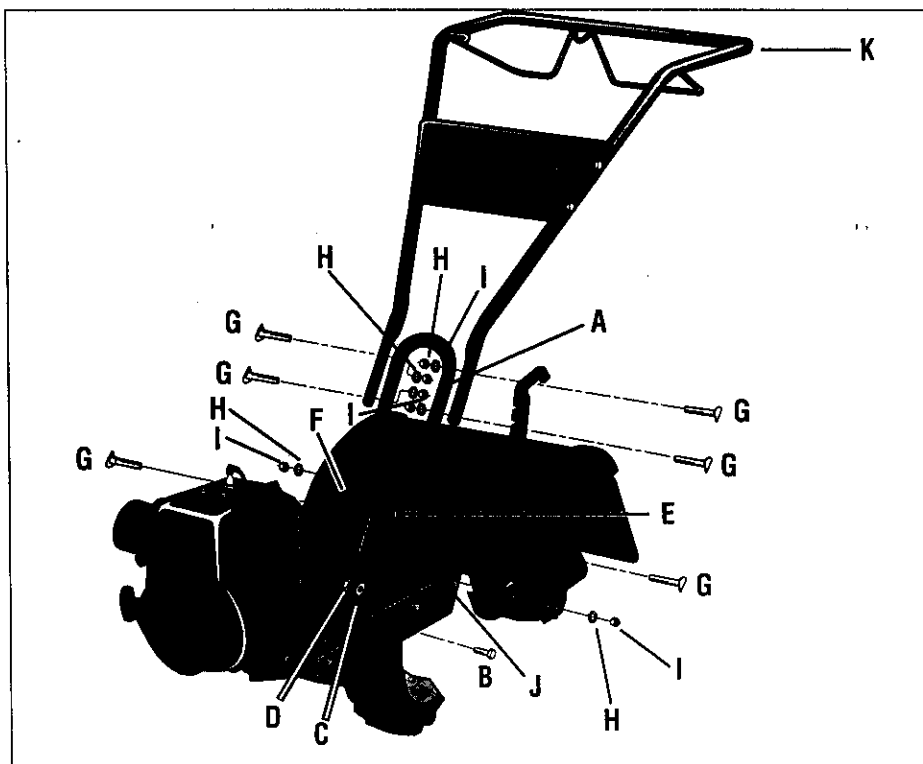

Figure 2-1: Assemble handlebar.
1. Attach the legs of the handlebar support (A, Figure 2-1) loosely to the inner sides of the tiller frame using two 3/8"-16 x 3/4" hex hd. screws (B), 3/8" flat washers (C) and 3/8"-16 hex locknuts (D).
2. Using the middle holes in the handlebar support brackets (E and F, Figure 2-1), loosely attach the support brackets to the handlebar support (A) using two 5/16"-18 x 1-1/2" curved hd. screws (G), 5/16" split lockwashers (H) and 5/16"-18 hex nuts (I). NOTE: If a support bracket will not move, loosen attaching screw (J) and nut.
3. Attach the handlebar assembly (K) to the handlebar support (A) using four 5/16"-18 x 1-1/2" curved hd. screws (G), 5/16" split lockwashers (H) and 5/16"-18 hex nuts (I). Tighten the four screws securely.